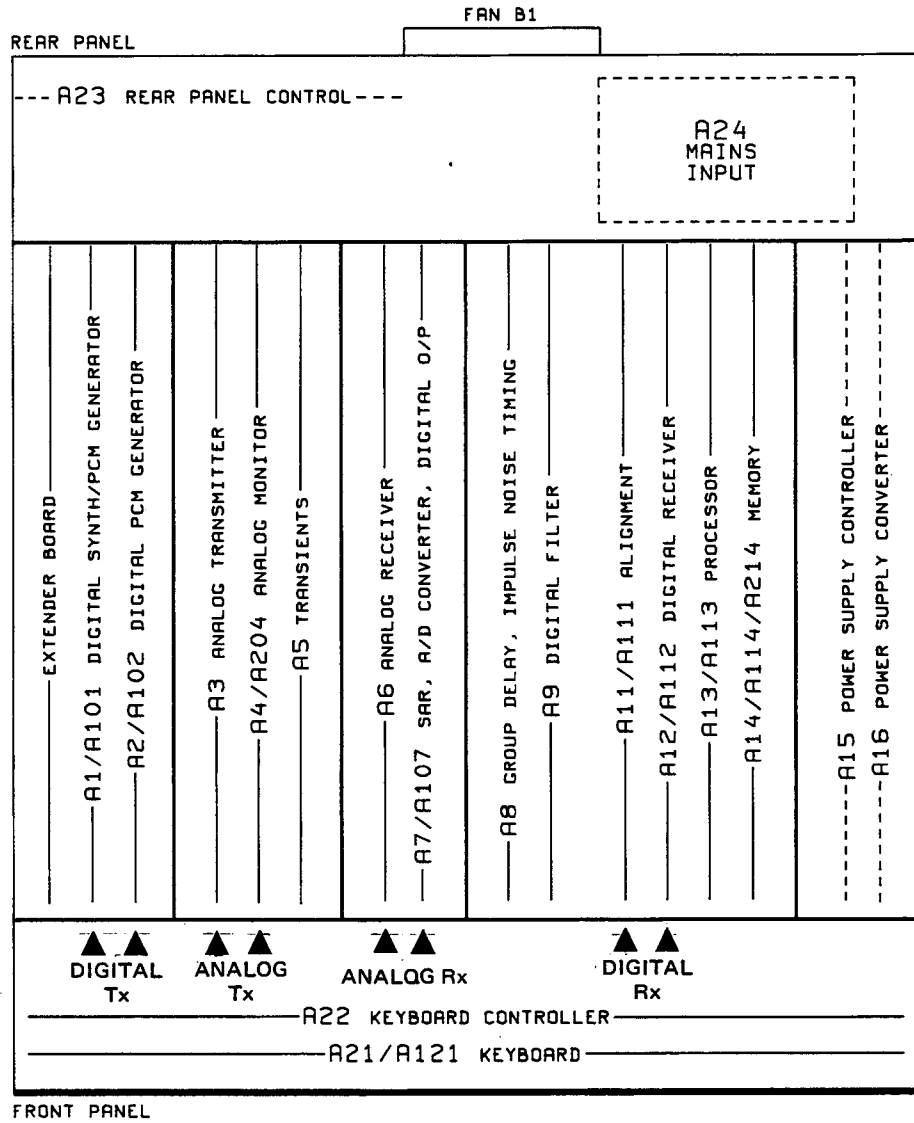

Figure 8-1 Assembly Location
- 1 A list of the main assemblies and their location within the instrument (see Figure 8-1).
- 4 Assembly Service Sheets covering each of the assemblies illustrated in Figure 8-1.
8-6 These service sheets enable fault finding to component level. They contain general and detailed circuit descriptions (where applicable), together with troubleshooting information, component layouts, circuit schematics and block diagrams. The location of each assembly covered by a Service Sheet is illustrated in Figure 8-1. Table 8-1 highlights the differences between the 3776A and 3776B instruments.